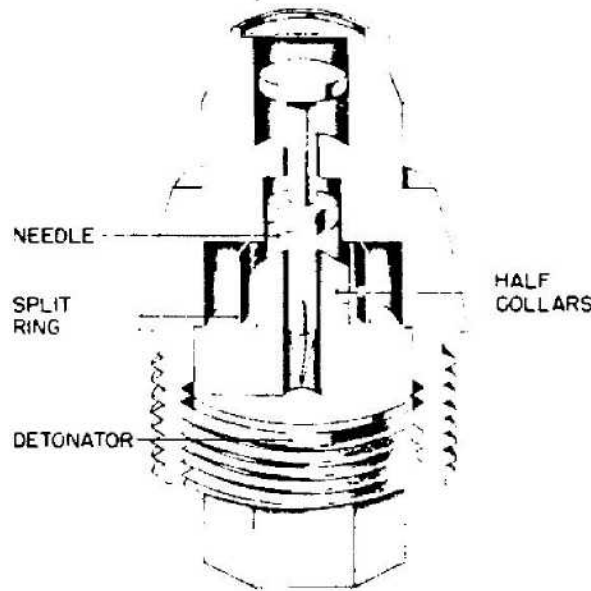

Figure 557—A. Z. 1551 and 1552
**EMPLOYMENT:** Nose fuzes used in German 15 mm ammunition. (See fig. 557.)